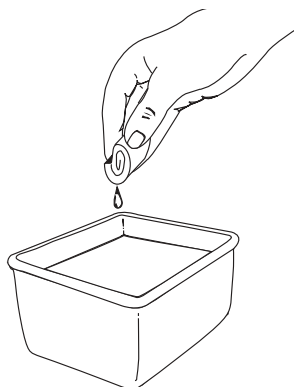

Fig. 62
3. Wash the filter in detergent and water (Fig. 62). Rinse the filter thoroughly and allow it to dry.